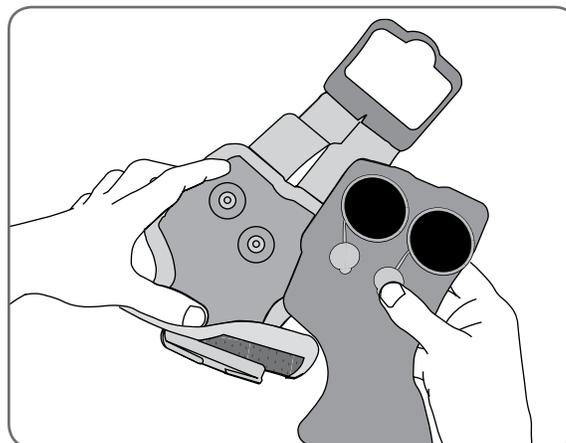

Figure 7-7: Removing the personal panel from the L300 FS Cuff. (Regular L300 FS Cuff shown).
1. Remove the personal panel from the L300 FS Cuff. See Figure 7-7.